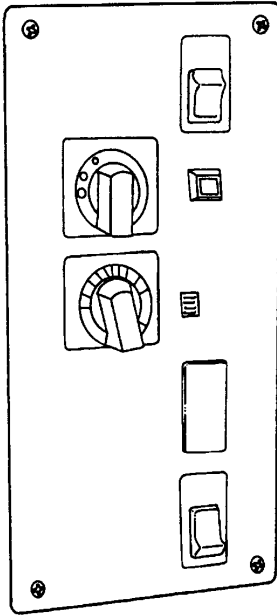
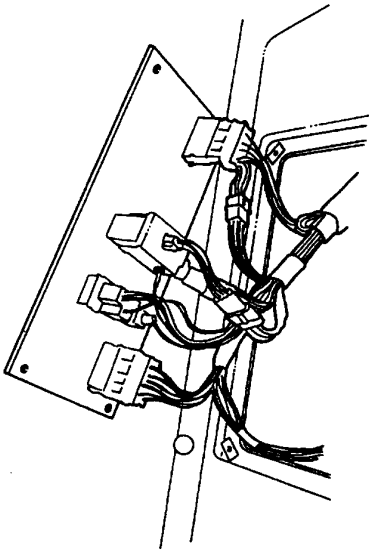

Figure 62 Sleeper Control Assembly Screws
Figure 63 Sleeper Control Assembly
Refer to Figure 62 and Figure 63.
1. Remove four screws from sleeper control assembly (Figure 62).
2. Carefully slide sleeper control assembly out (Figure 63).
2. Connect all sleeper control assembly electrical connectors (Figure 63).
4. Install four mounting screws (Figure 62).